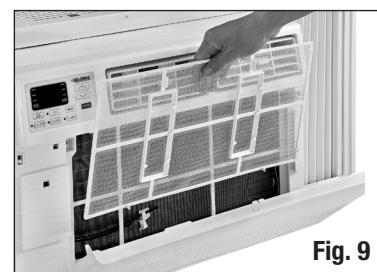

Fig. 9
1. Remove the filter by pulling down on the indents of the filter door on the front of the unit. (Fig 9)